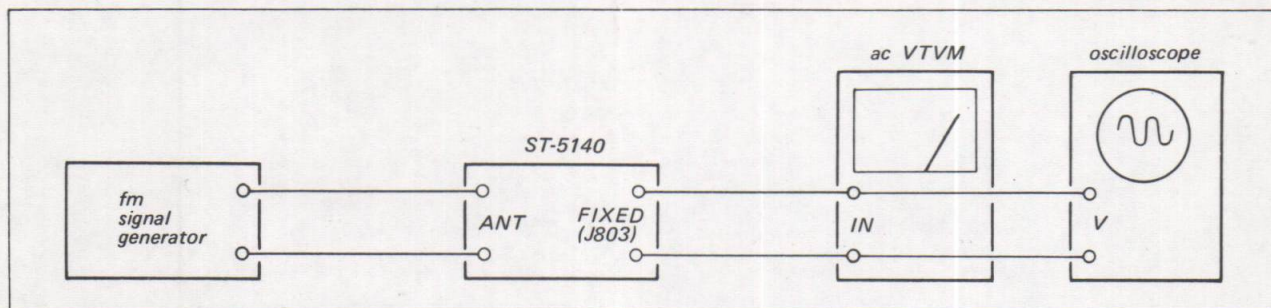

Fig. 3-2. I-f, muting and frequency coverage alignment test setup
1. With the equipment connected as shown in Fig. 3-2, set the signal-generator's controls as follows:
1. With the equipment connected as shown in Fig. 3-2, set the tuner's controls as follows:
- Connect the equipment as shown in Fig. 3-2.